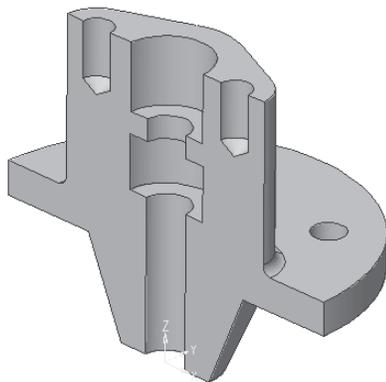

Figure 3-74 Sectional view of the model
6. In the **Name** edit box, assign the name as **Section view** and choose **OK**. The isometric view of the sectional view is shown in Figure 3-74.